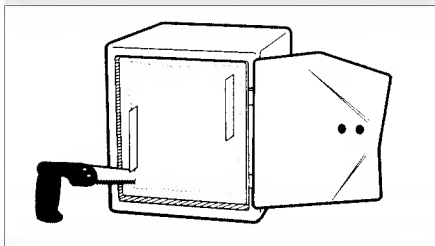

Figure 3.
6. With a sabre saw, cut out this molded panel (Figure 3) and remove the contents.